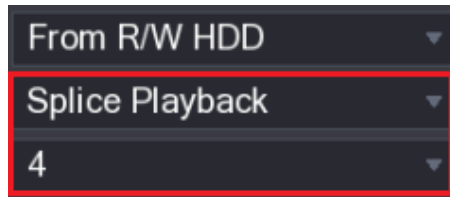

Figure 5-106
Step 2 In the **Search Type** list, select **Splice Playback**; In the Split Mode list, select **4, 9**, or **16**. See Figure 5-106.